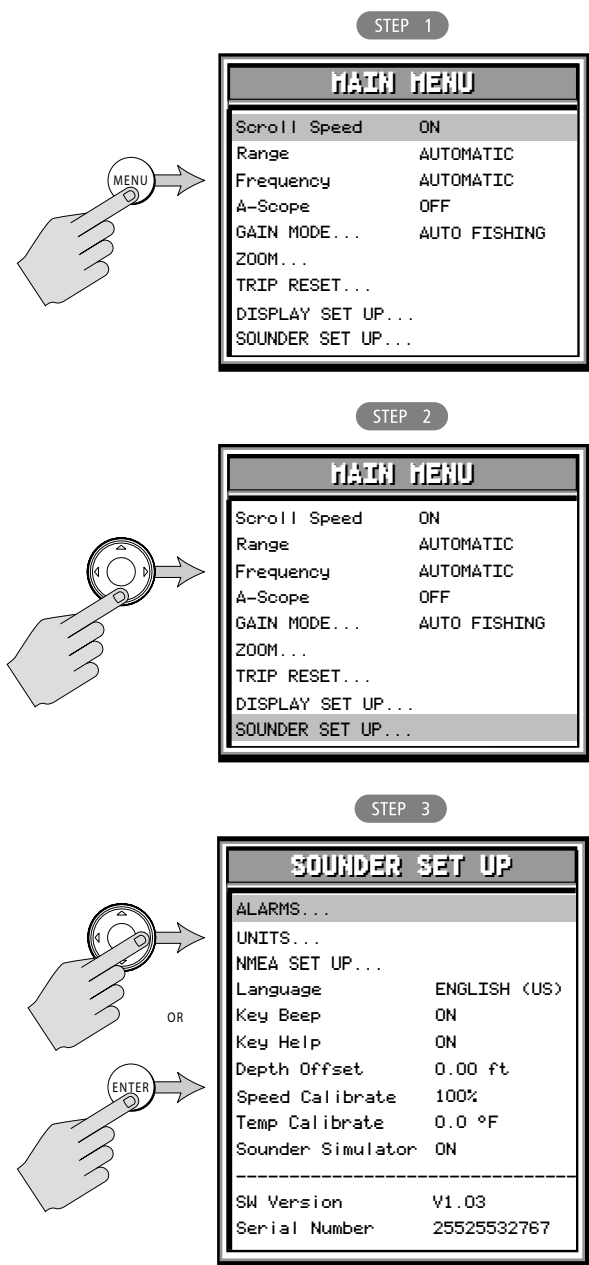

Figure 6-1: Accessing Sounder Set Up Menu Items
*Figure 6-1 also demonstrates how to access the Sounder Set Up Menu Items. A description of how to browse the menu and make selections is outlined in *Selecting MENU Items* on page 34.*